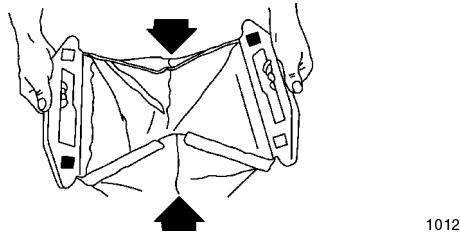

Figure 15
5. Close the rear of the bag by folding the sides in and pressing the interlocking rear handle halves together (Fig. 15).